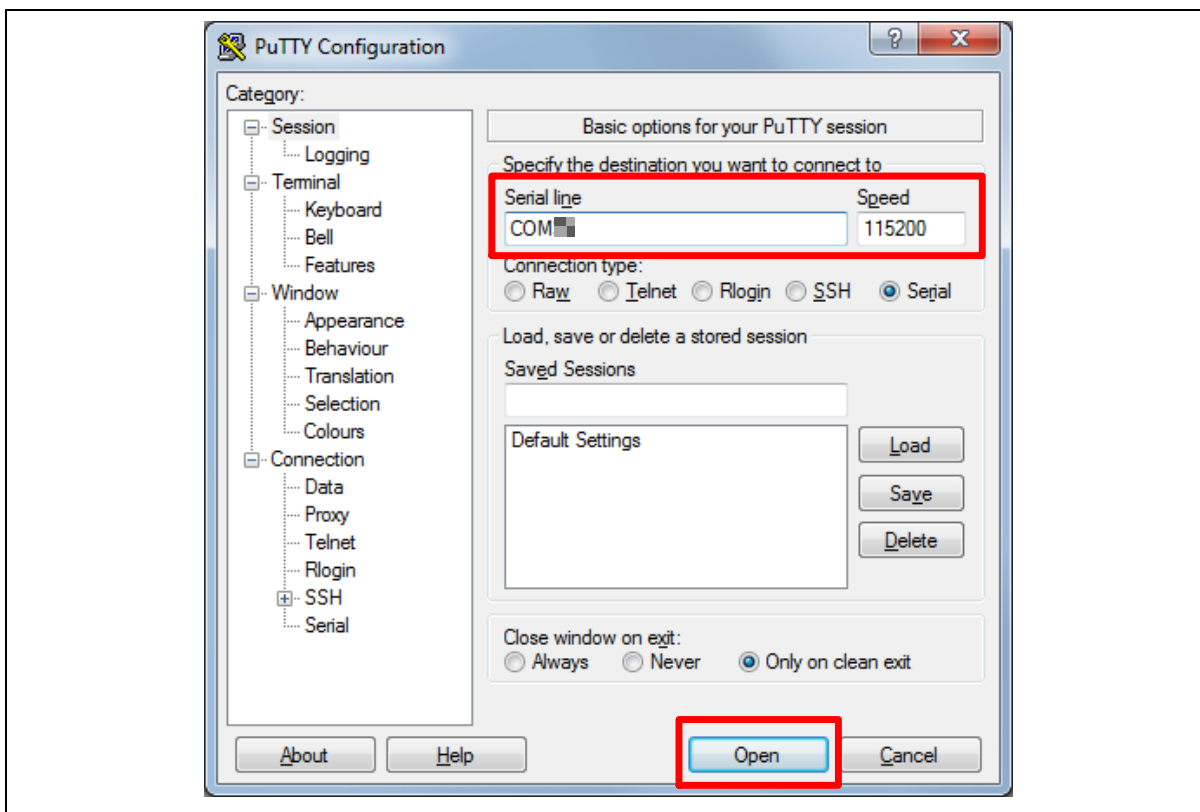

Figure 5-6 PuTTY Session Setting
- Open a serial port terminal, PuTTY for example, to print out debug message. Set the speed to 115200. Figure 5-6 presents the PuTTY session setting.